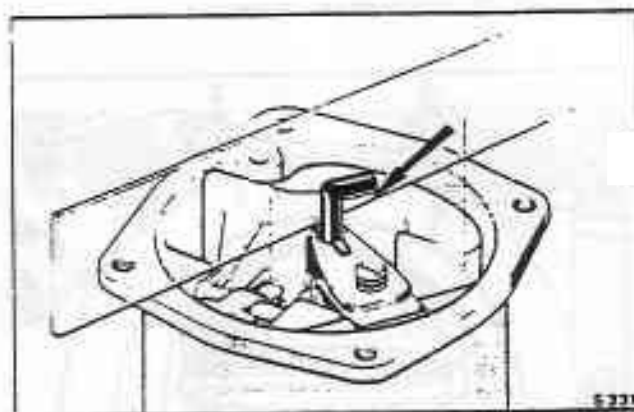

Fig. K5-10 Checking the float level
5. Check that the lowest point on the float (see fig. K5-10) is below the float chamber face by the dimensions given in the table.